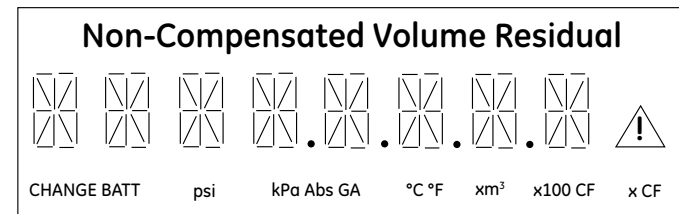

Figure 9.3 - Data Display Screen
- A. Data will be displayed in digital format as shown in Figure 9.3.